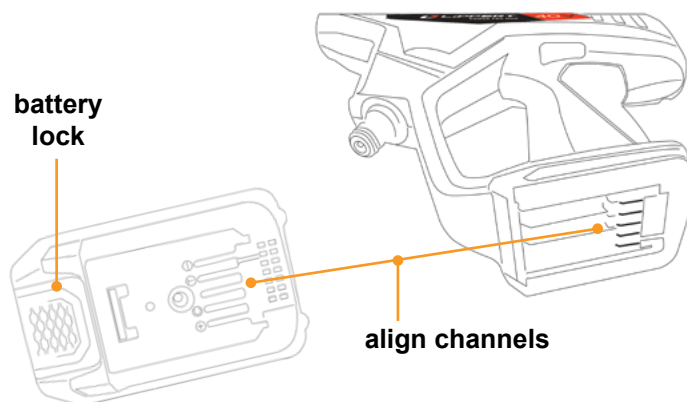

Fig.11
1. Align handle assembly with the channels on the battery pack (Fig.11).
2. Slide battery pack into base of the handle assembly until battery pack is securely attached to the main handle assembly. Battery lock (Fig.11) will engage when the battery pack is correctly attached to handle assembly.
7. Remove battery pack from handle assembly by pressing the battery lock button (Fig.11) down, then slide the battery out from the base of the handle assembly.
NOTE: The 2.6 Ah MAX Li-ion battery pack has a single-button, latch release mechanism—located on the top, front side of the battery, just above the POWER TEST panel (Fig.11).